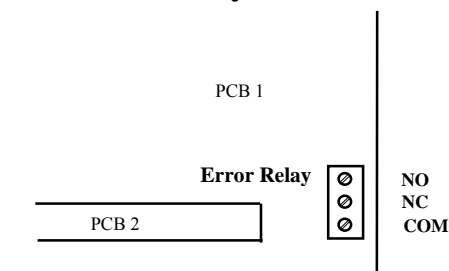

Fig. 5.5 ERROR Relay
2. The upper button on the 'Error Relay Action' of the Diagnostics program shows 'Error Relay Steady' which means that the error relay is switched over once from contact COM to NO. (See Fig. 5.5).